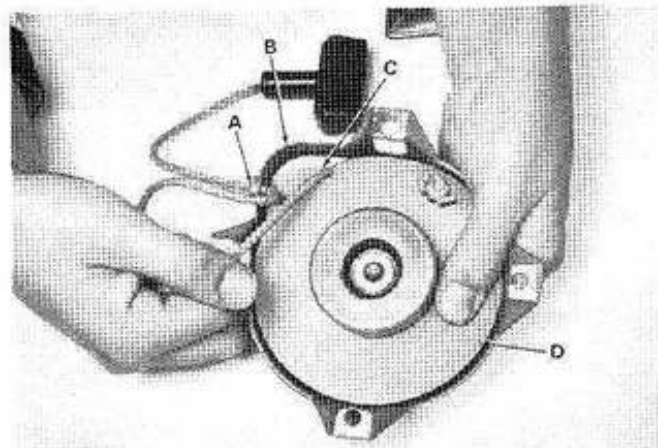

Figure 108. Tension Release of Rewind Spring.
- Relax the tension on the starter cord by holding the starter assembly with the pulley up. (See Figure 108.)
- To replace the starter rope, insert a new rope through the pulley (D) and then through the rope exit hole (A) in the starter housing (B). (See Figure 108.)
- Pull all the excess rope through the exit hole (A), grasp the rope with your fingers at point (C) where it enters the starter pulley (D).
- Hold the starter pulley (D) stationary with your thumb and remove all the slack from the rope. Release the thumb pres-